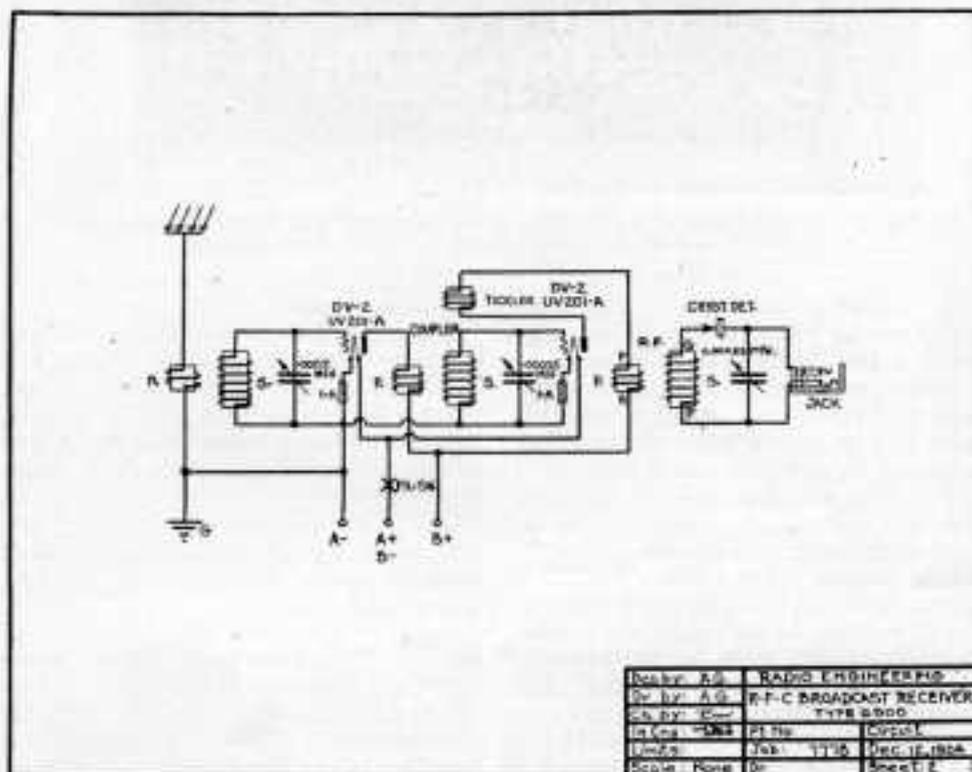

Fig. 2. Examine this schematic diagram carefully and you will see how the R-F-C circuit is put together.
**How the R-F-C Set Operates** Referring to the schematic diagram in Fig. 2, you will see that the first condenser and coupler provide one stage of non-oscillating tuned R. F. amplification. The second condenser and coupler form the tuning circuit for the second stage. In the plate circuit of the second tube is a Rauland R-199 radio frequency trans-